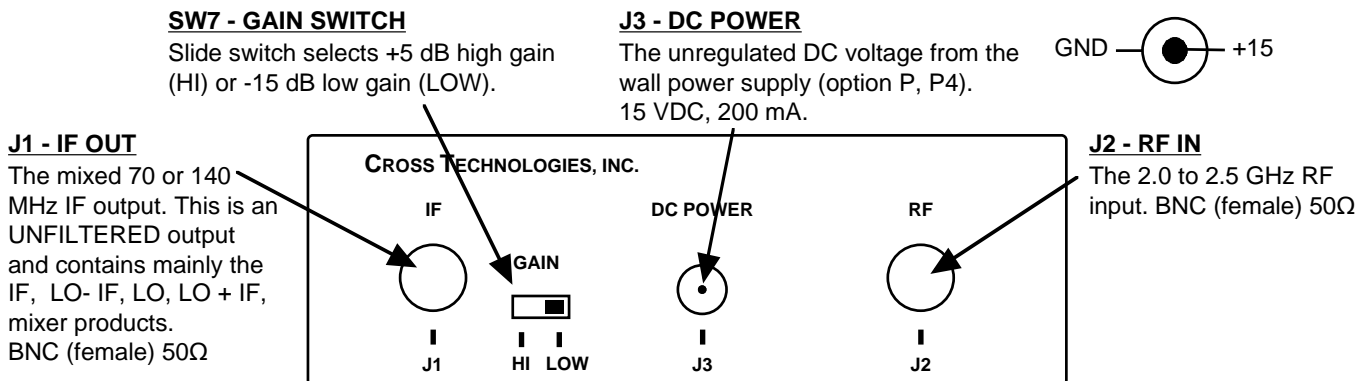

FIGURE 2.2 2005-20 Rear Panel Inputs and Outputs
2.3 Rear Panel Input/Output Signals - Figure 2.2 shows the input and output signals to the 2005-20.
1. If using the receiver LNB voltage to power the 2005-20, be sure +14 to +24 VDC is on the RF center conductor. If using the wall power supply (**options -P or -P4**), connect the power supply to the DC POWER connector and either 120 VAC (**-P**) or 90-260 VAC (**-P4**) (Figure 2.2)
3. Select either HI or LOW GAIN using the switch (SW7) on the rear panel (Figure 2.2).
4. Connect a -10dBm max RF signal to RF In, J2 (Figure 2.2).
5. Connect the IF Out, J1, to the modulator under test (Figure 2.2).